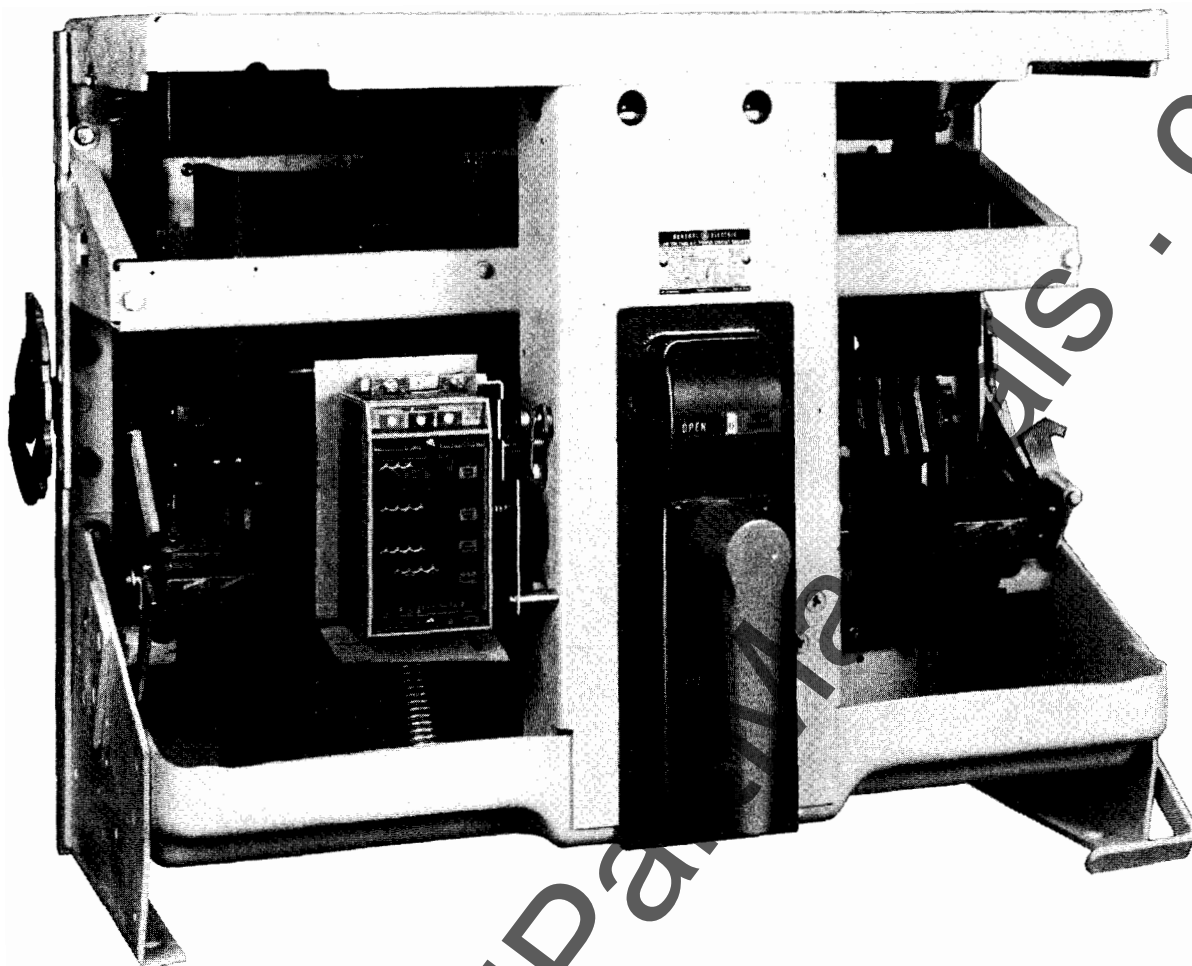

Fig. 1 — SST programmer unit mounted on AK-100 breaker.
1. Referring to Figs. 1, 4 & 5, install the programmer mounting brackets 70 and 75 on the breaker's center channel.